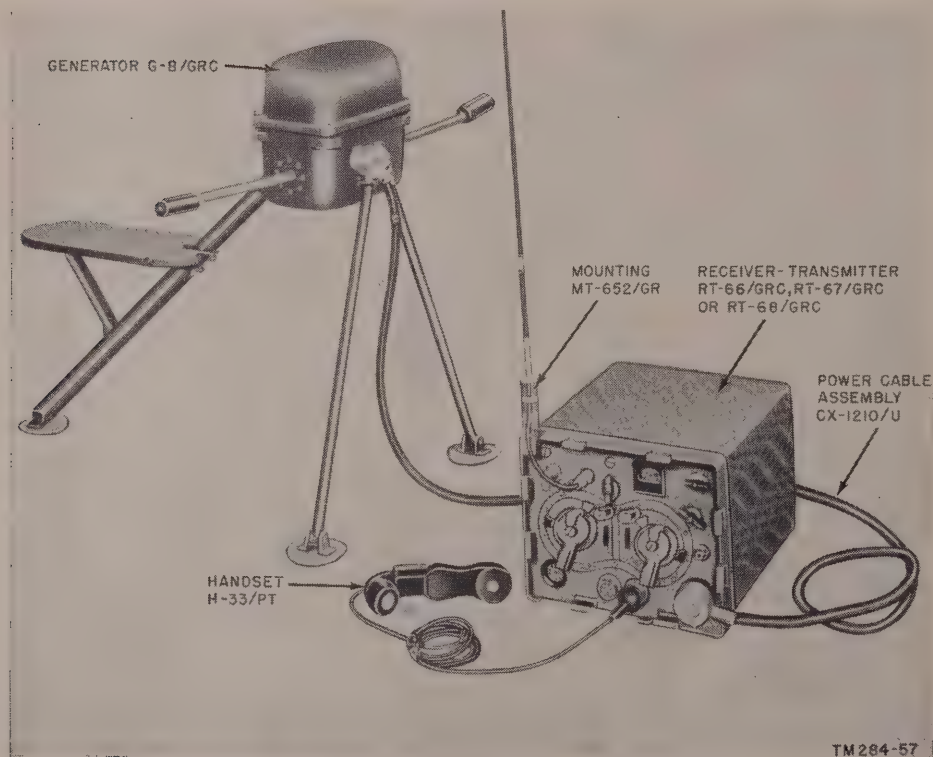

Figure 60. Field operation of receiver-transmitter with Generator G-8/GRC.
108. Operation of Receiver-transmitter with Generator G-8/GRC (fig. 60)
b. Set up the generator and receiver-transmitter as indicated in figure 60. Connect Power Cable Assembly CX-1210/U to the generator and the other end to the POWER IN receptacle on the receiver-transmitter. The generator will supply all the operating voltages for both the receiver and the transmitter. The block diagram (fig. 59) illustrates the function of the generator. Figure 63 shows the interconnections schematically.